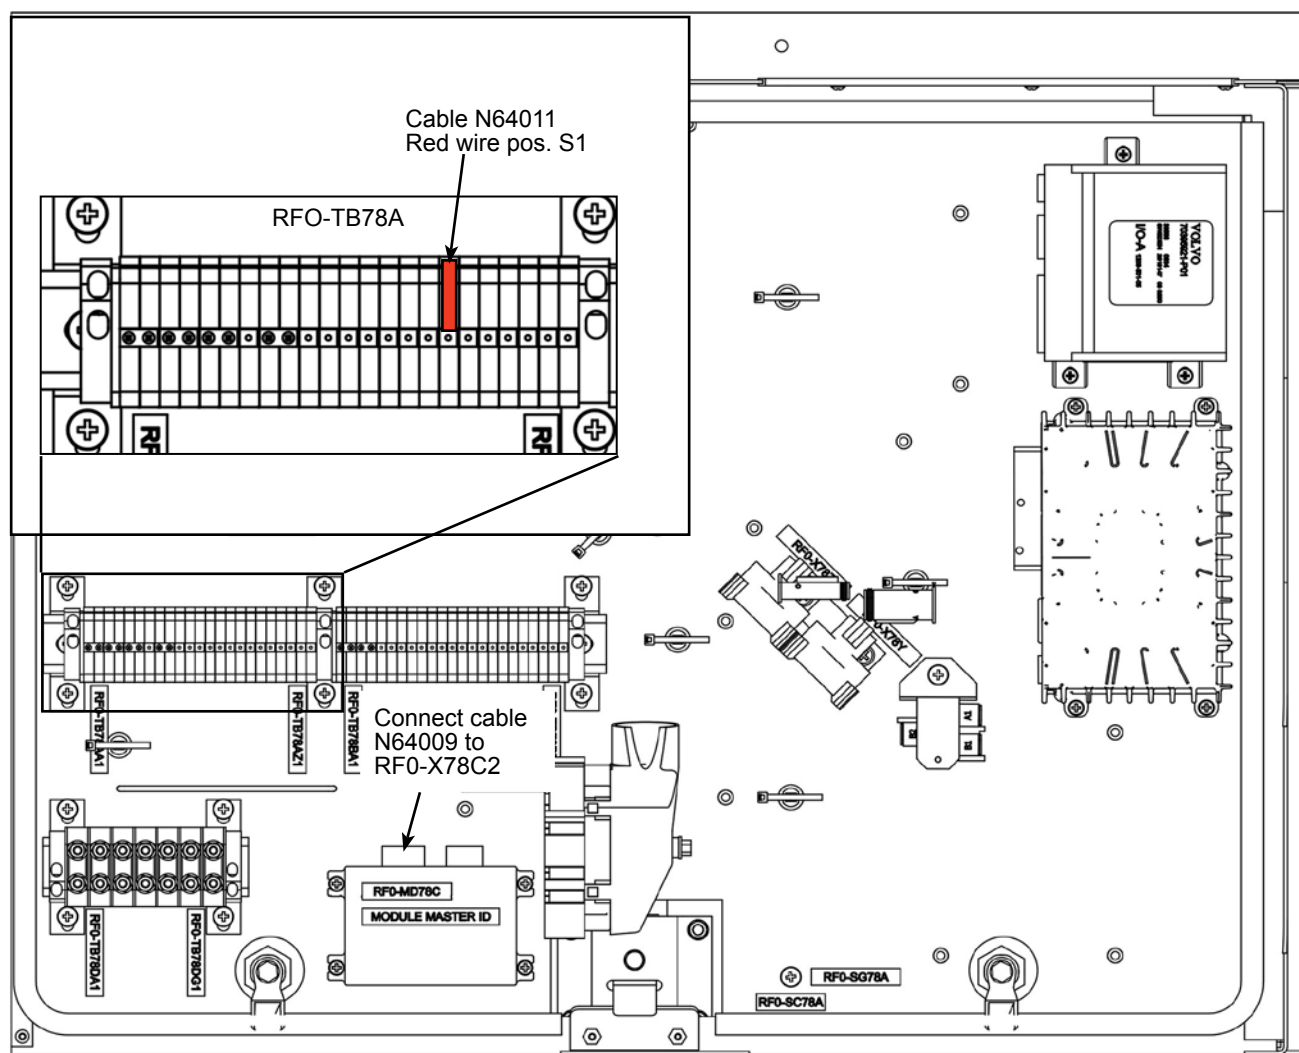

Figure 3 - Cable N64011 and N64009 Connection in Main Panel
- 1.20. Connect the red wire of cable N64011 to the Main Panel terminal block RF0-TB78A-S1. See Figure 3.
- 1.22. Disconnect cable **RF0-X78C2** from the Master ID module. See Figure 3.
- 1.23. Connect cable N64009 to connector **RF0-X78C2**. See Figure 3.